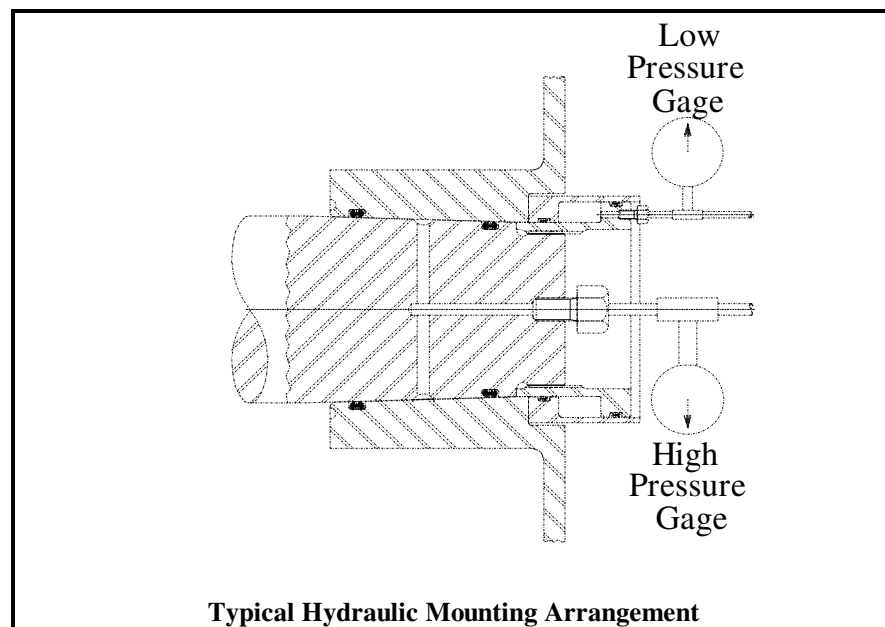

Figure 4-5
- 4.2.3.6 Mount the hub onto the shaft using a hydraulic mounting device until the hub bottoms against the positive stop. Refer to AGMA 9003-A91 or other industry standard for more information about hydraulic mounting (see Figure 4-5).